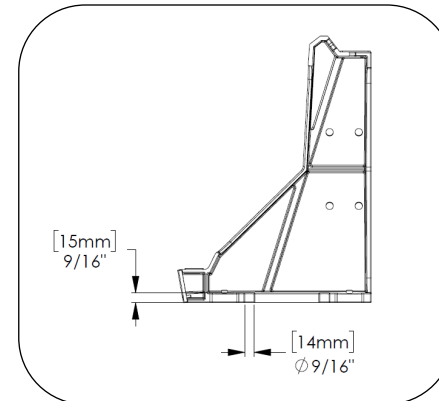

Fig. 5
5. Drill all holes for entire bench layout, see Fig. 5. Loosely install anchors.